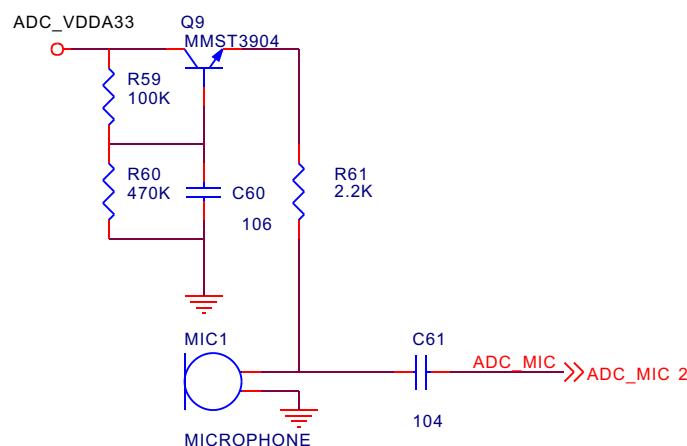

Figure 3.2.13.1 MIC circuit schematic diagram
1. MIC circuit schematic diagram is shown in the figure 3.2.13.1: